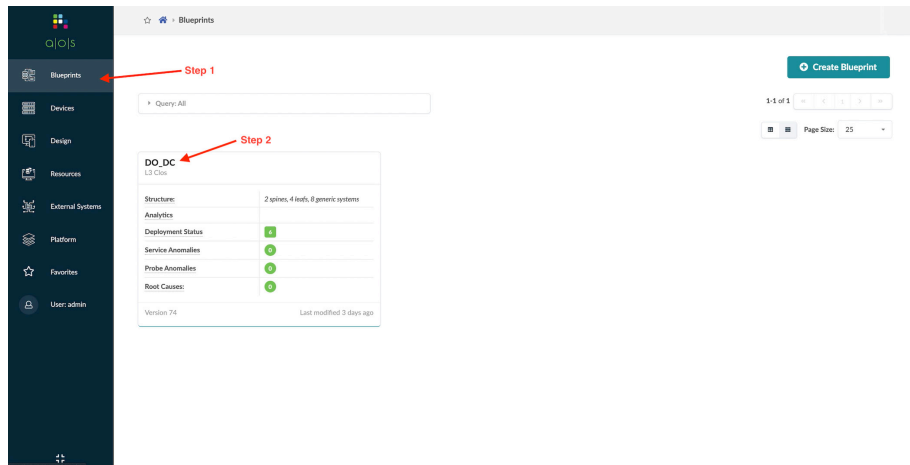

Figure 7.4 Deploying a New Configlet
Step 1: Go to Blueprints. See Figure 7.4.